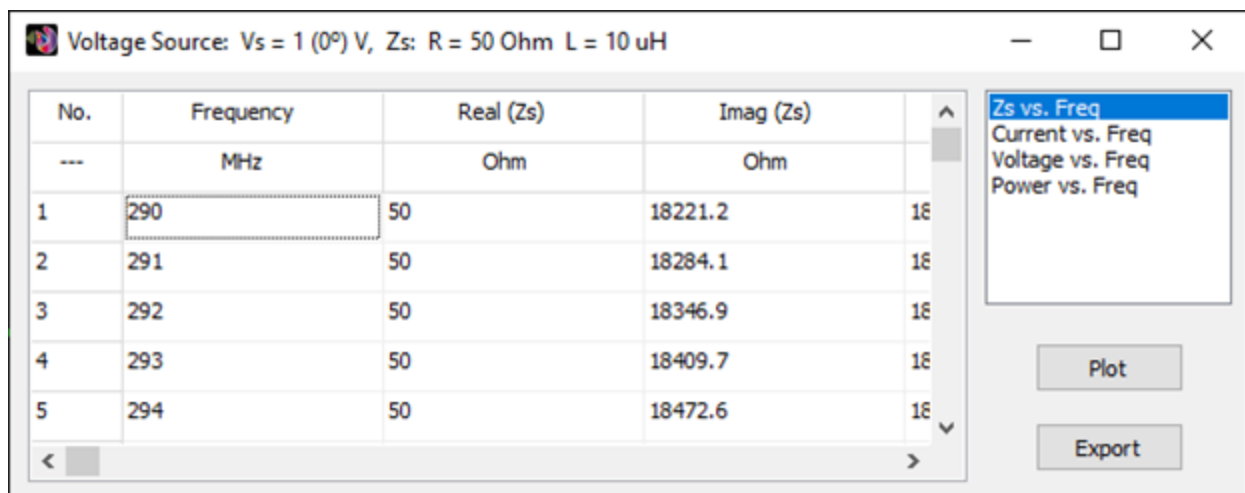

Fig. 4: The "Source List" dialog box.
- **Source List:** Enabled when a source is present. It lists currents, voltages, and powers specifically within the **internal impedance** of the source. Data can be plotted or exported to CSV (**Fig. 4**).